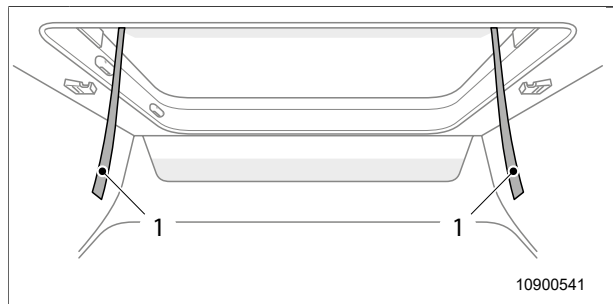

Fig. 43 Closing the pop-up roof
7. Pull down the pop-up roof slowly and evenly on the two straps (Fig. 43, item 1).